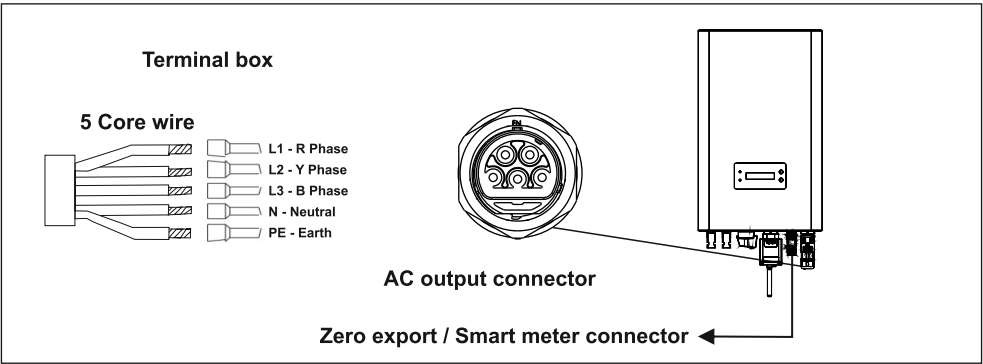

Fig. 14
- 5) Fig. 14 shows labels for AC circular connector